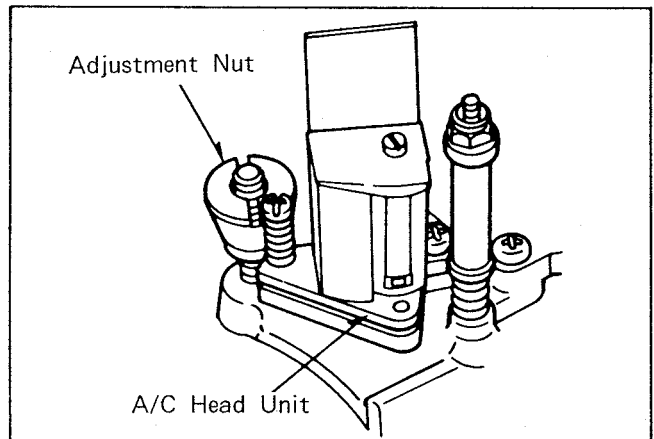

Fig. M16
4. Adjust the adjust screw so that the RF envelope output level becomes is maximum at the detent position (Fig.M16,M17).